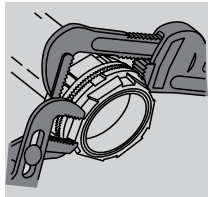

Fig. 2
- 2 Locknut design with peripheral slots and a hexagonal/angled spline spaced every 30° enables easy application of torque with wrench or hammer and screwdriver. (See Figures 2 and 3)